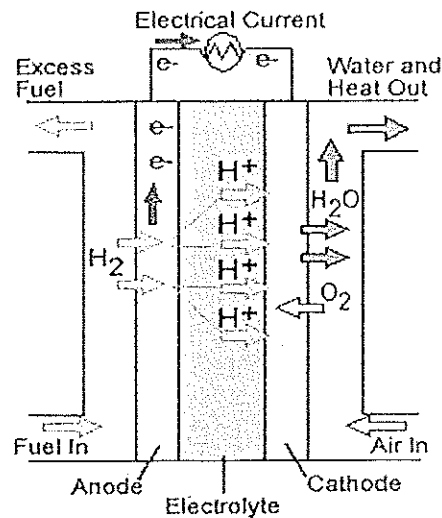

Figure Q07
- (a) A schematic diagram of a typical fuel cell is shown in Figure Q07. Briefly explain the operation of the fuel cell.